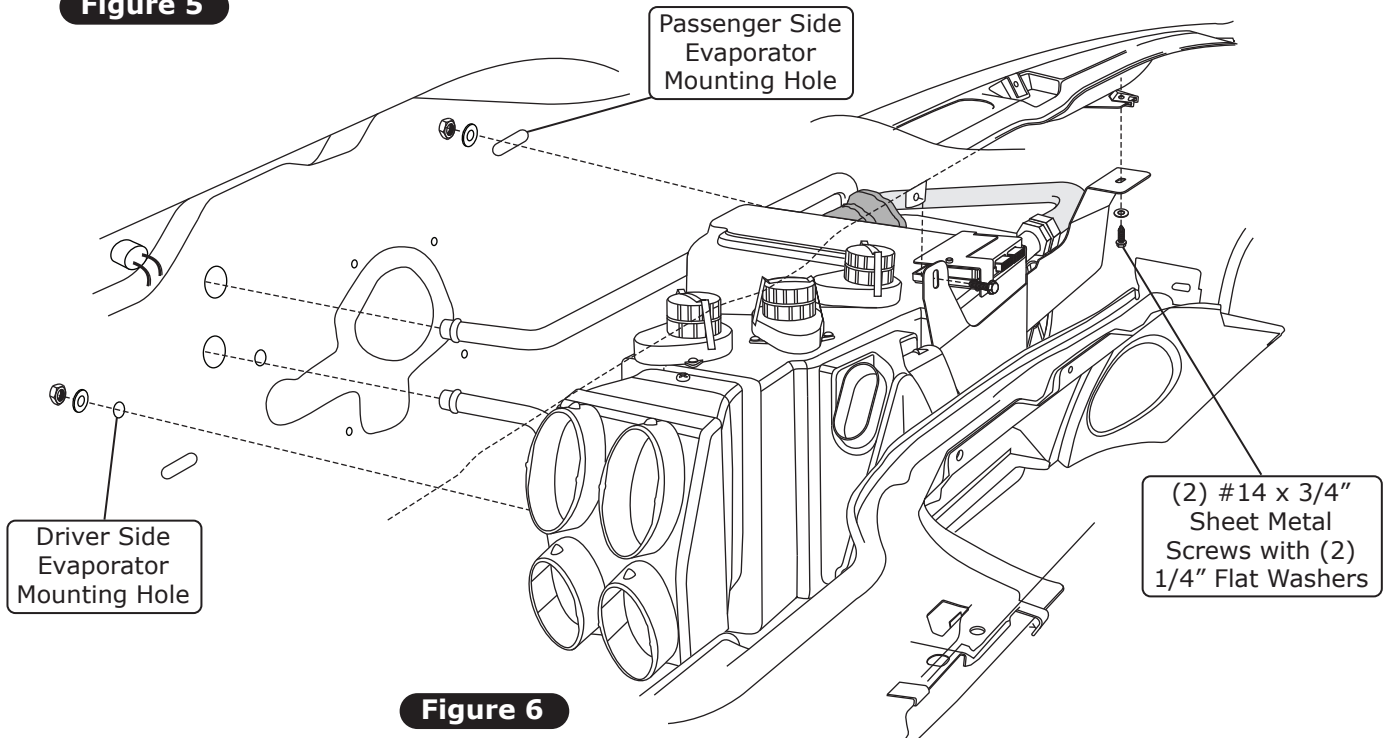

Figure 6
5. Lift the evaporator unit up under the dashboard (See Figure 6, below). Secure it loosely to the firewall from the engine compartment side using (2) 1/4-20 nuts and (2) 1/4" washers (See Figure 6, below).
6. Using (2) #14 x 3/4" sheet metal screws with 1/4" flat washers, secure the front evaporator mounting bracket to the inner cowl (See Figure 6, below).